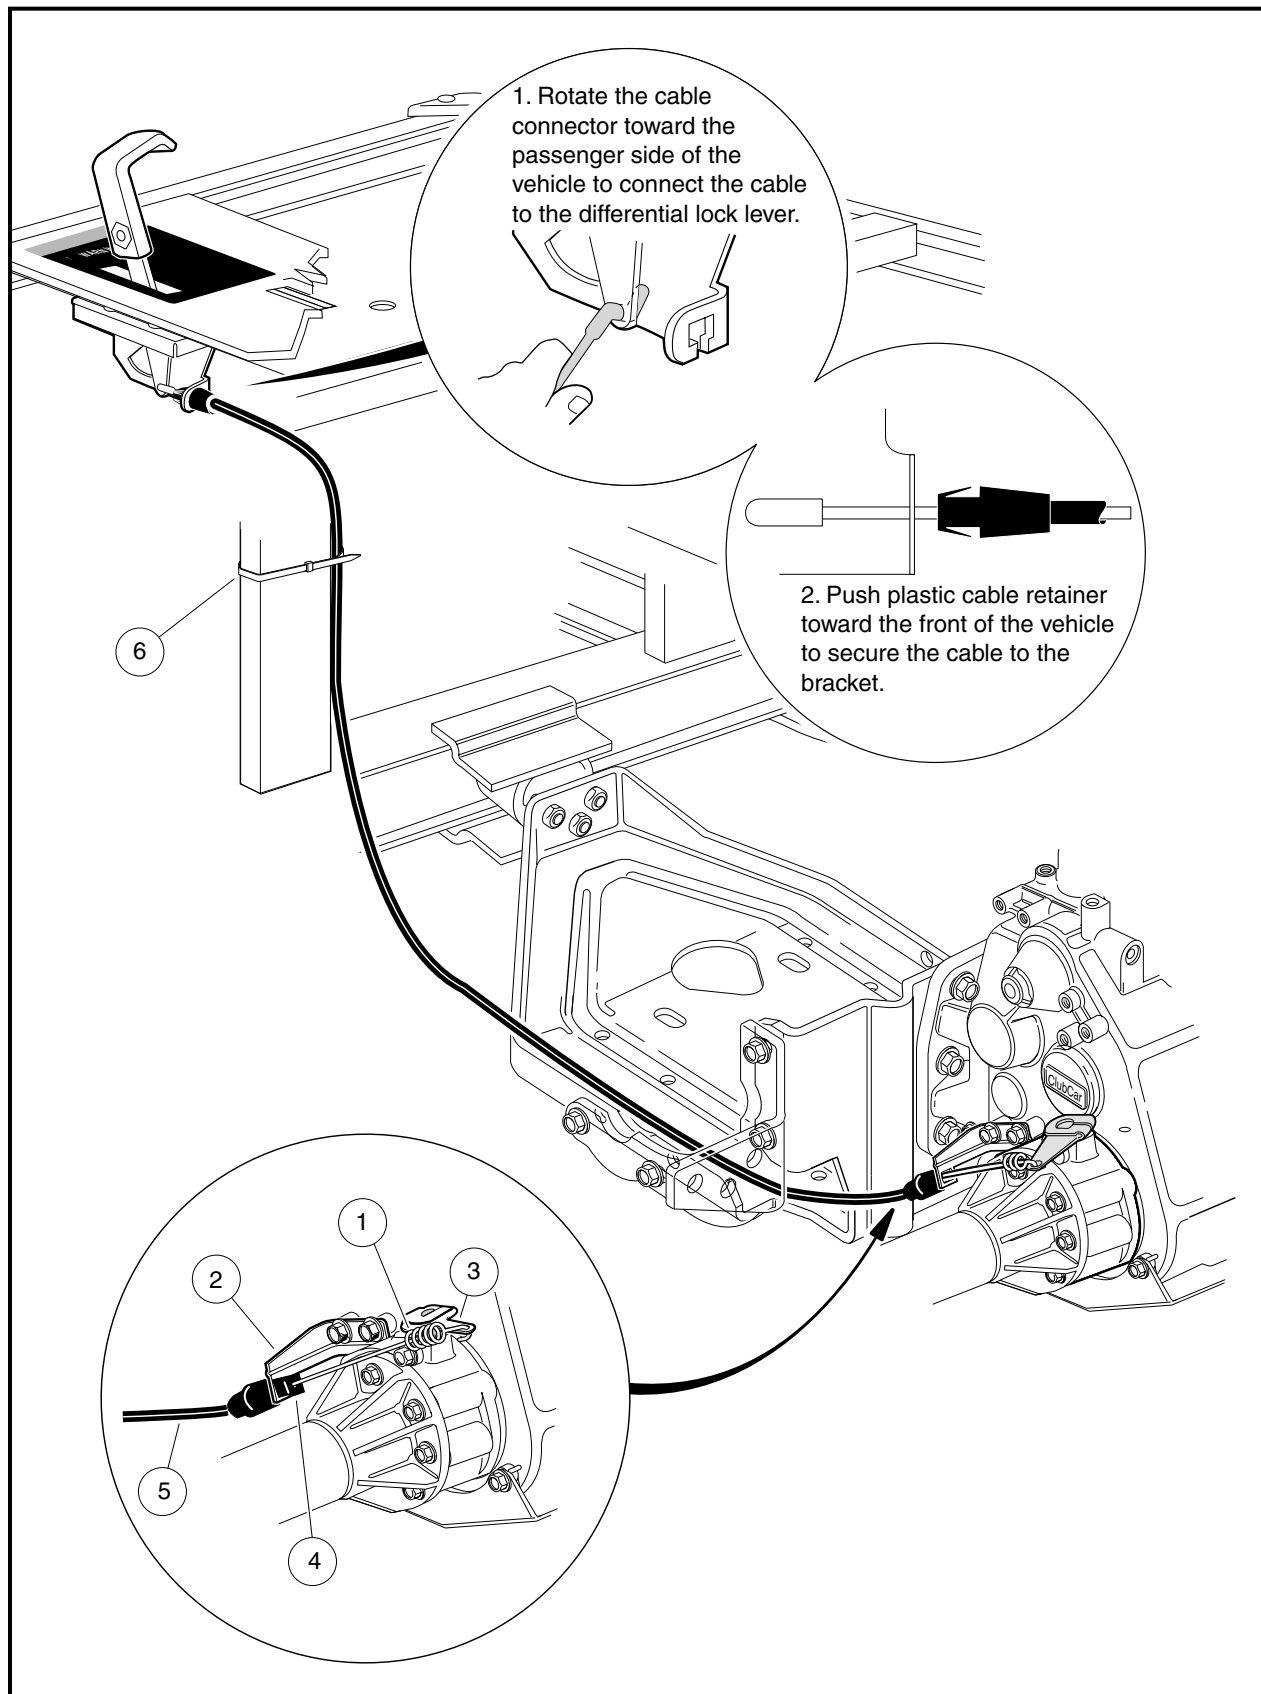

Figure 16a-117 Differential Lock Cable Routing
- 5.1. Connect the end of the differential lock cable to the differential lock handle (Step 1) (**Figure 16a-113, Page 16a-49**).
- 5.4. Push the cable toward the front of the vehicle to secure the cable to the bracket (**Figure 16a-114, Page 16a-49**).
- 5.5. Secure the cable to the vertical support as shown with a wire tie (6) (**Figure 16a-117, Page 16a-54**).